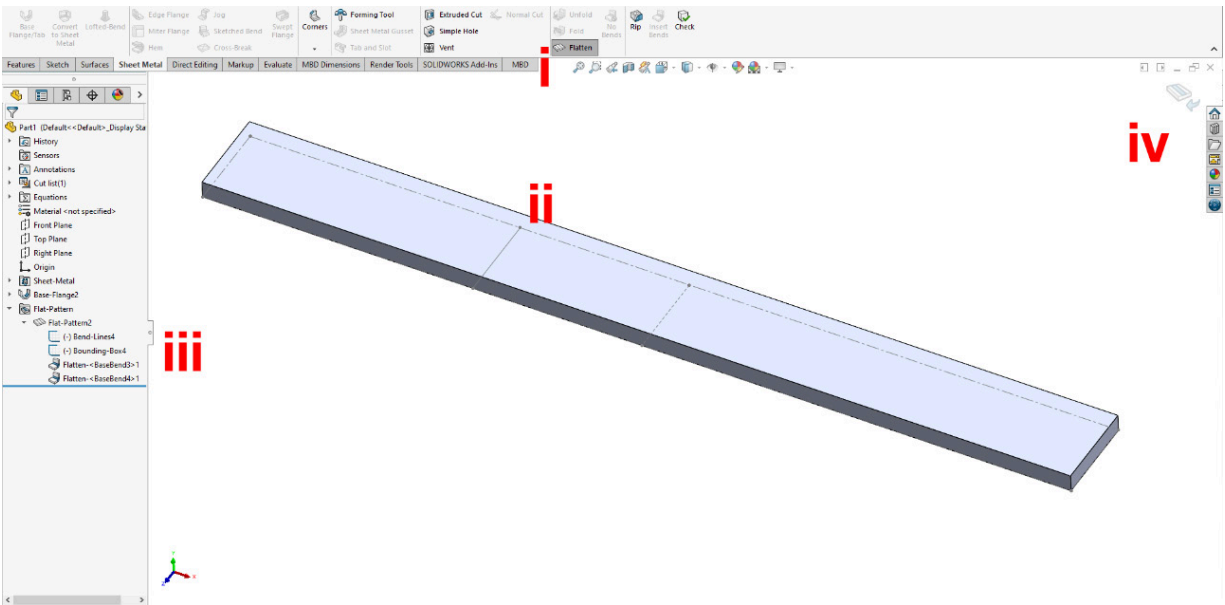

Figure 1.23: Flatten option
1. From within a Sheet Metal *part*, select the **Flatten** option from the **Sheet Metal** tab or toolbar (labeled **i** in *Figure 1.23*).
2. The *part* will be unfolded into a flat sheet. Note the dotted outline, which indicates the bounding box of the flattened *part*, and the sketch lines, which show the location of Bend Lines (labeled **ii** in *Figure 1.23*).
4. Note also that the **Flat -Pattern** folder at the end of the FeatureManager Design Tree is now unsuppressed and so is no longer grayed out (labeled **iii** in *Figure 1.23*).
5. To unflatten—or fold up—the *part*, simply click the **Flatten** button on the **Sheet Metal** tab or toolbar again or click the **Flatten** button that can be seen in the top right of the graphics area (labeled **iv** in *Figure 1.23*). Note that the *part* folds up and the **Flat-Pattern** folder is now suppressed (or switched off) again.